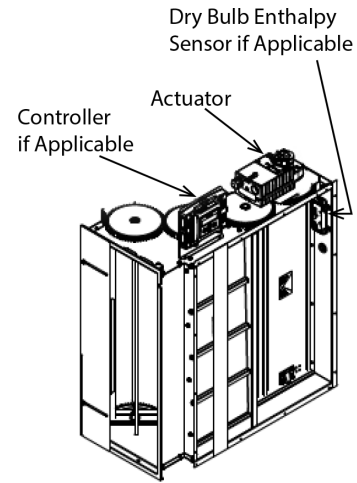

FIGURE 5 - ACTUATOR AND CONTROLLER LOCATION
- Leave the kit supplied filter access panel above the hood off at this point to access the controller and actuator. Controller and actuator are mounted directly to economizer (see Figure 5).